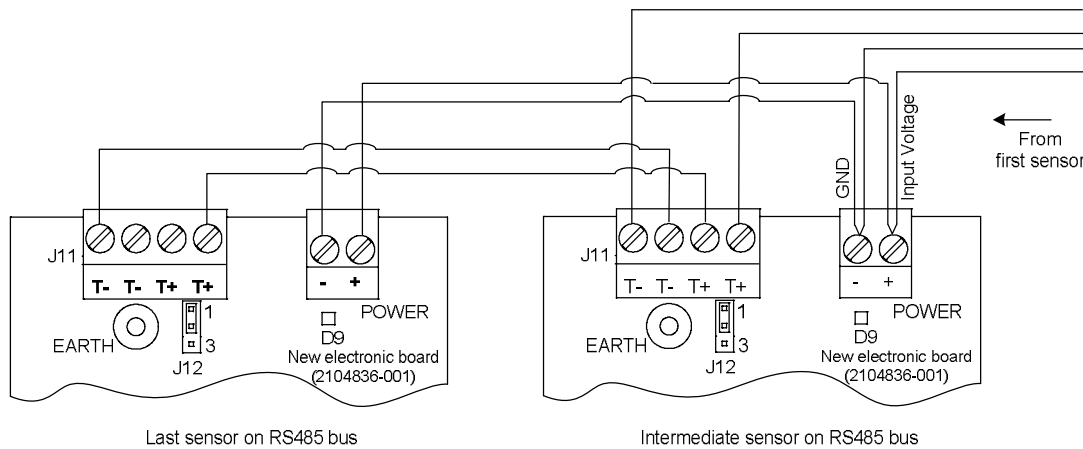
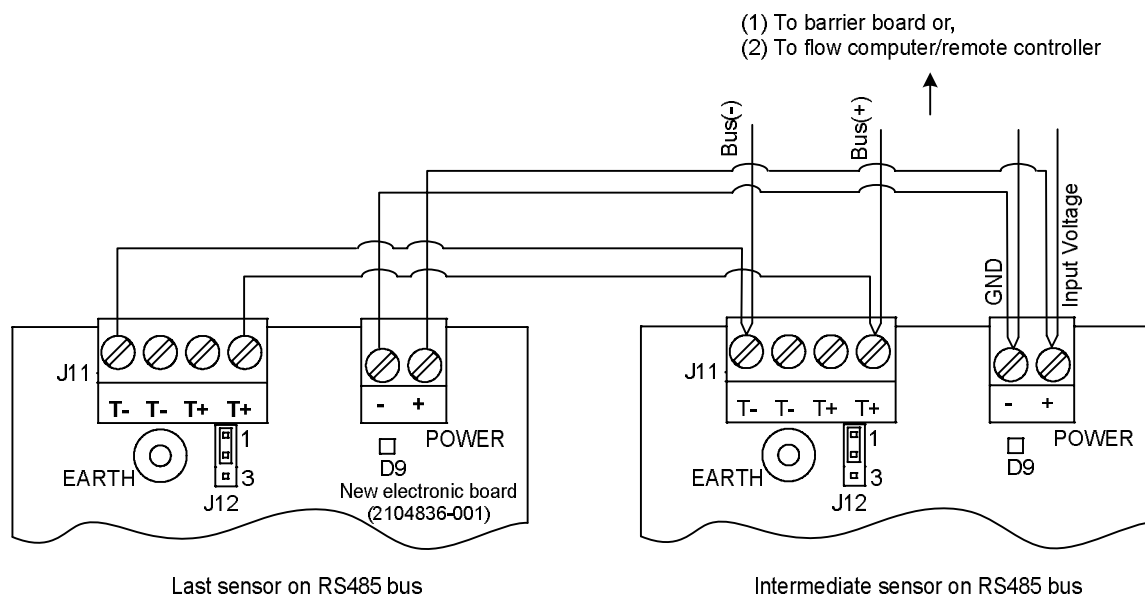
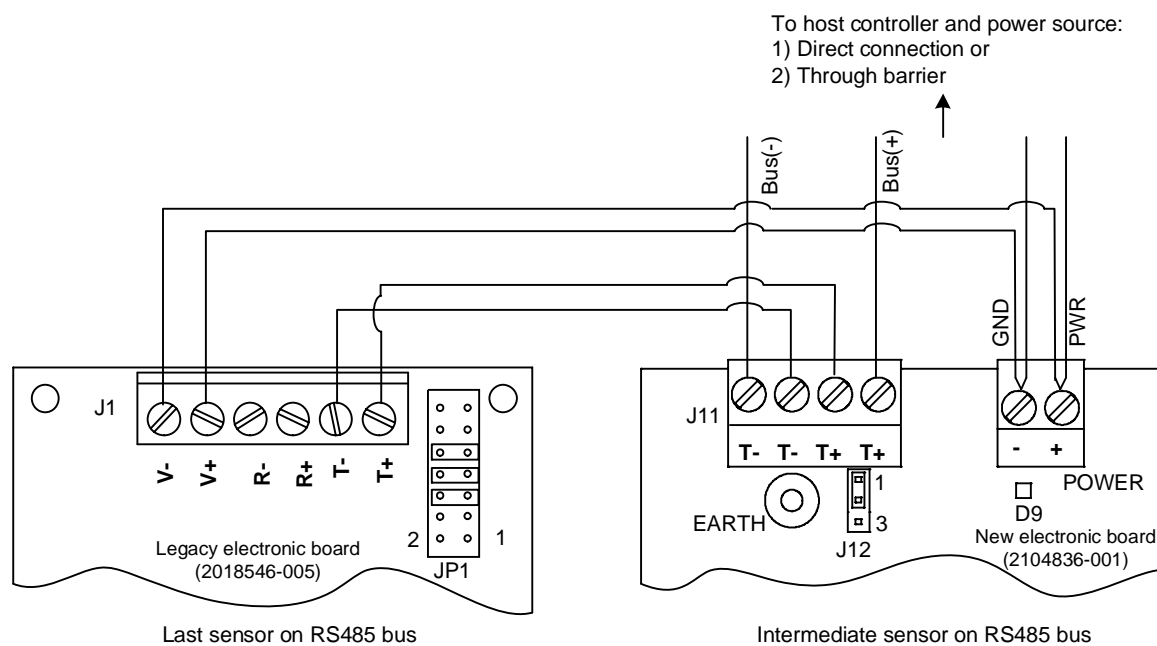

Figure 25: Three-LevelMaster RS-485 bus (same board type)
Figure 26: Two-LevelMaster RS-485 bus of same board type using single communication contact pair
Figure 27: Two-LevelMaster RS-485 bus (mixed board type)
3. Insert the wires in the correct position (see Figure 24, Figure 25, Figure 26, or Figure 27 for sample wiring):
3. Insert the wires in the power connector, observing correct polarity (see Figure 24, Figure 25, Figure 26, and Figure 27 for sample wiring).
Figure 25 displays two additional LevelMasters connected to the first LevelMaster. The first and second LevelMasters are intermediate units on the bus. The third must be configured to terminate the bus. Communication connections in intermediate nodes use both pairs on the RS-485 ports.
**IMPORTANT NOTES:** Connection options depend on the type of wire, gauge, and user preference (see section 4.2, *Selecting wire type*). Figure 26 shows a two-LevelMaster bus with boards of the same type, where the communication connection for the additional LevelMaster is through the same connection pair on the RS-485 port on the first LevelMaster (instead of using both pairs as in shown in Figure 24). While using both pairs is recommended, this connection also works and is left up to customer preference.
Figure 27 displays wiring between two LevelMasters with different board types. The first LevelMaster is the intermediate sensor on the bus. The additional LevelMaster, with a legacy board, is the last sensor on the bus and must be configured to terminate the bus (JP1 jumpers are placed on 5-6, 7-8 and 9-10 as indicated in section 4.1.3, *Onboard termination jumpers (legacy boards only)*).